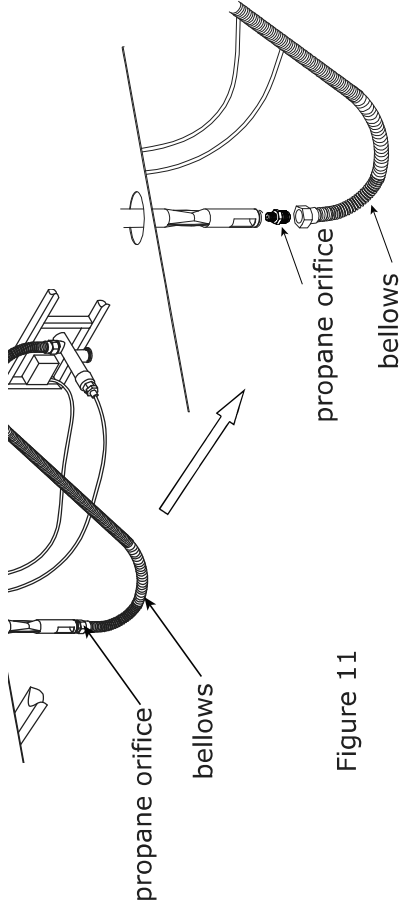

Figure 11
2. Unscrew and disconnect the propane orifice from the bellows (see Figure 11). Propane orifice (2.21 mm diameter size) is painted with red mark.